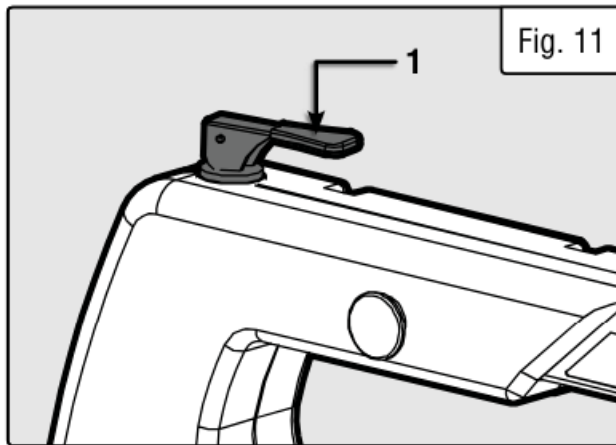

Fig. 11
1. To remove the blade, loosen the tension on it by lifting up the blade tension lever (Fig. 11 – 1). Turn the lever counterclockwise to loosen the blade holder if necessary.
3. Move the blade tension lever (Fig. 11 – 1) down and make sure the blade pin is properly positioned in the blade holders.